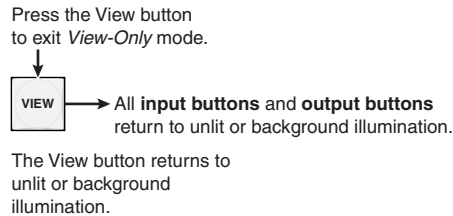

Figure 3-27 — Press the View button to exit View-Only mode
- Press and release the View button to exit *View-Only* mode (figure 3-27).